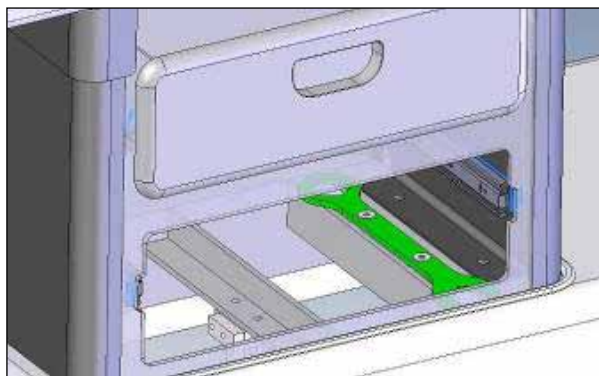

Figure 1: 1.5" Wrench Location
***Note:** Wrench 1.5" (show in green in Figure 1) can be found inside the rear support assembly of the VG stretcher.